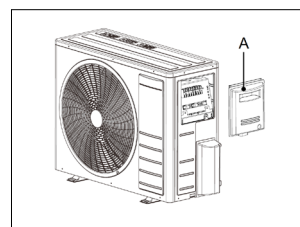

fig. 26 -
1. Remove the side panel (part A - "fig. 26 -").